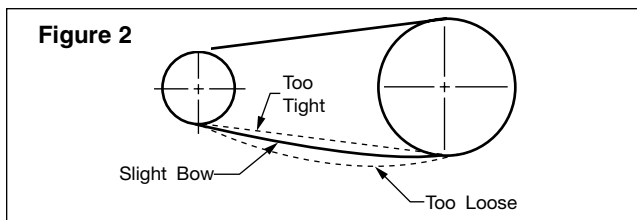

Figure 2
4. Belts must have the proper tension. Belts either too loose or too tight cause vibration and excessive wear (Figure 2). See IM-100 for belt tension adjustment procedure.